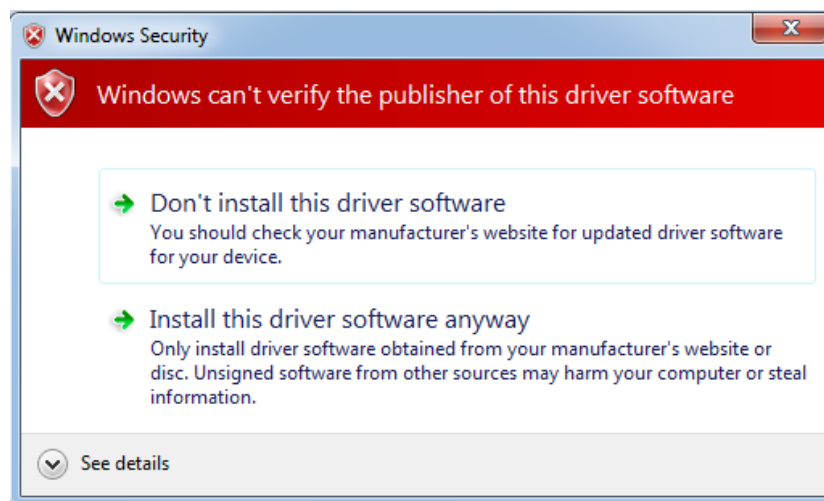

Figure 57 Windows Security
4. Click **Install this driver software anyway** if the window appears as shown in Figure 57.